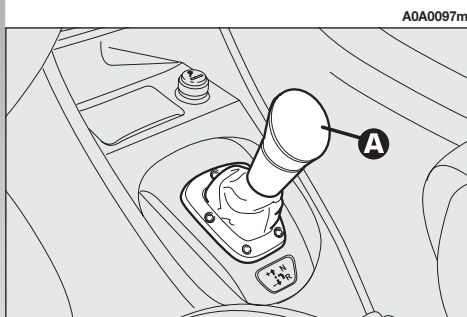

fig. 104
- the control lever on the centre console (**A-fig. 104**);